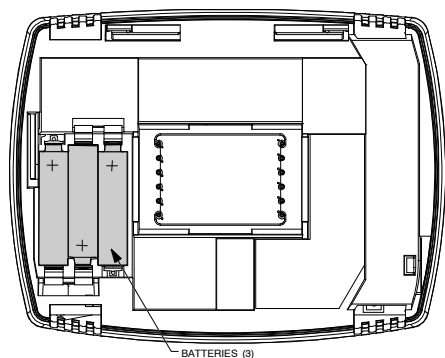

Figure 12. Installing Batteries
1. Install three AAA alkaline batteries on the back of the thermostat as marked (see figure 12).